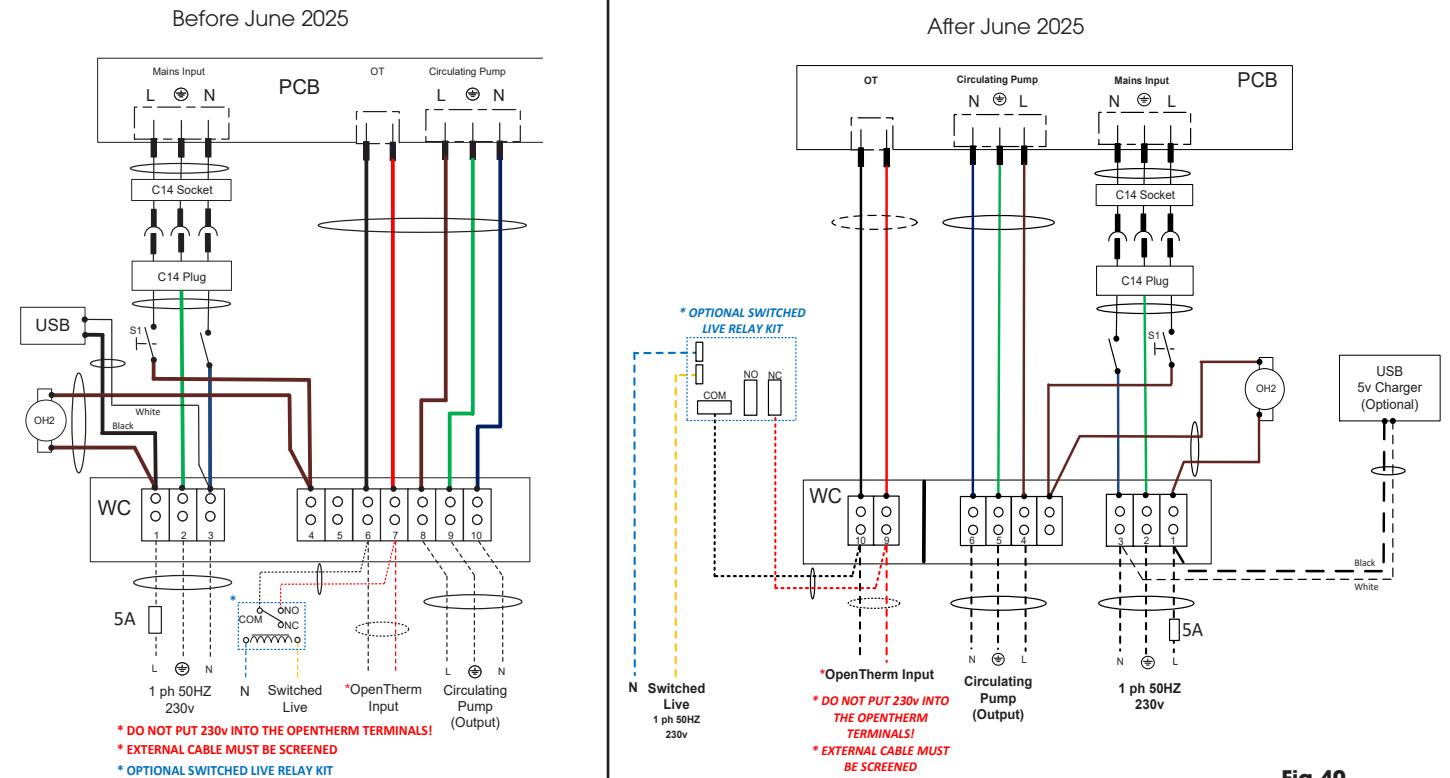

Fig 40
4. Wire as per Fig 40
On the EOGB Sapphire boiler, an external modulating circulation pump will need to be wired into the EOGB Sapphire wiring centre on terminals 8, 9 and 10 (See Fig 40)